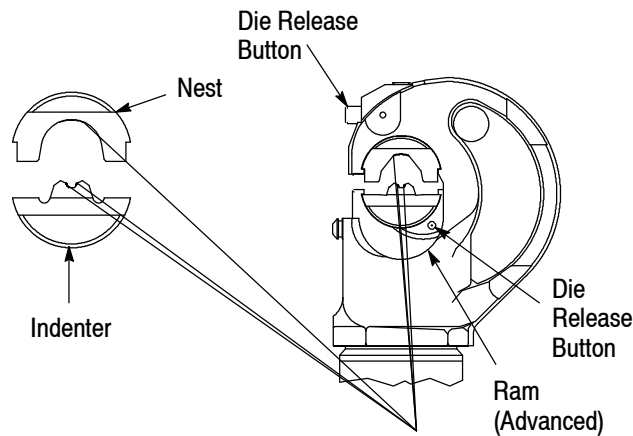

Figure 3
3.1. Die Installation (Figure 3)
2. Slide the nest into place in "C"-head. See Figure 3.
6. Slide the indenter into position in the ram. See Figure 3.
3.2. Die Removal (Figure 3)